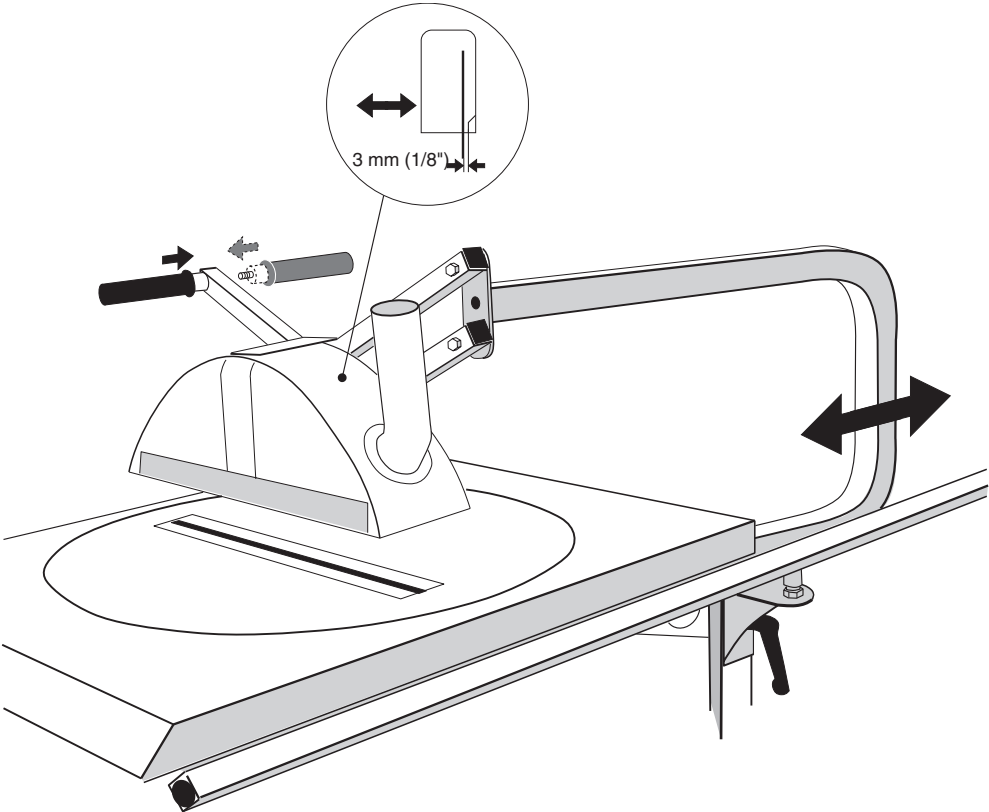
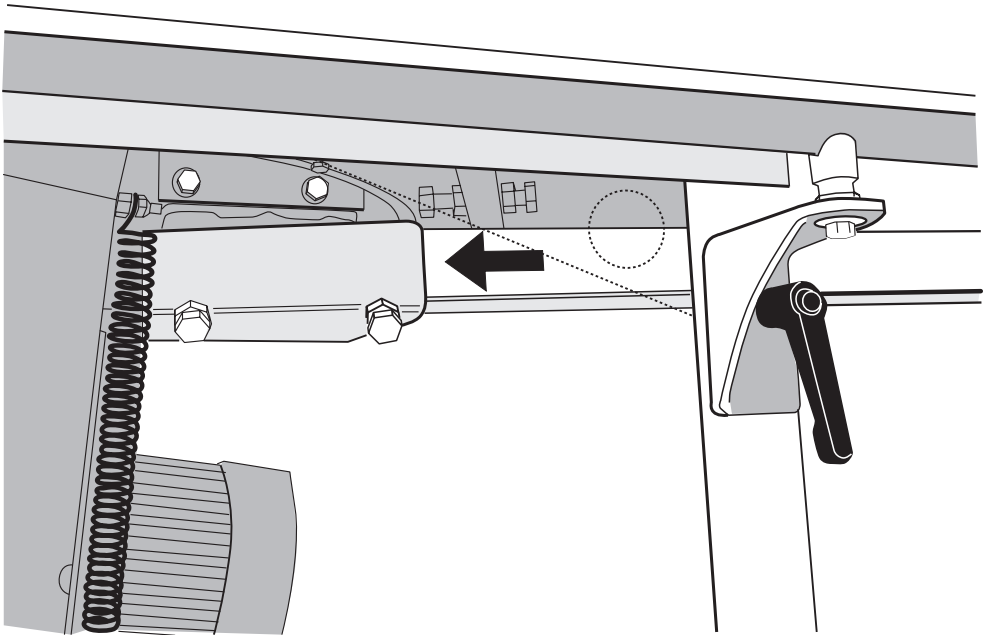

Fig. 1
Fig. 2
- Adjust the top guard (*Fig. 2*) so that the wooden strip on the inside of the guard is 3 mm from the saw blade. See *Fig. 1*.